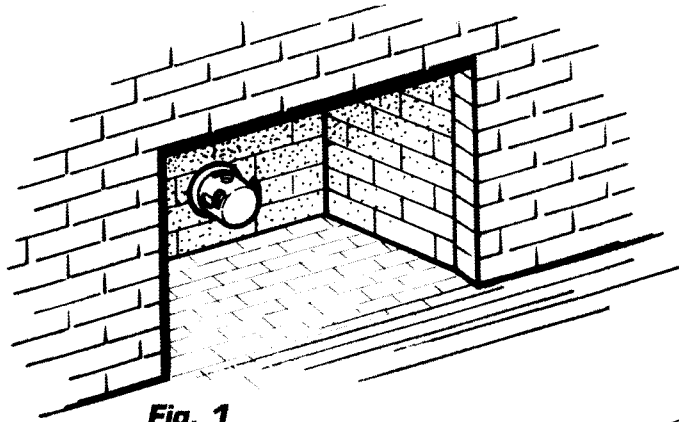

Fig. 1
**Fig. 1:** Install AIR VENT horizontally in the closed position with the middle of the slot on top and centered on the back wall (preferred) or a side wall of any conventional masonry fireplace, not more than 4" (10.2cm) from the floor of the fireplace to the bottom of the hole (as illustrated in fig.2) Hole for AIR VENT is approximately 4 1/4" (11.4cm) in diameter.